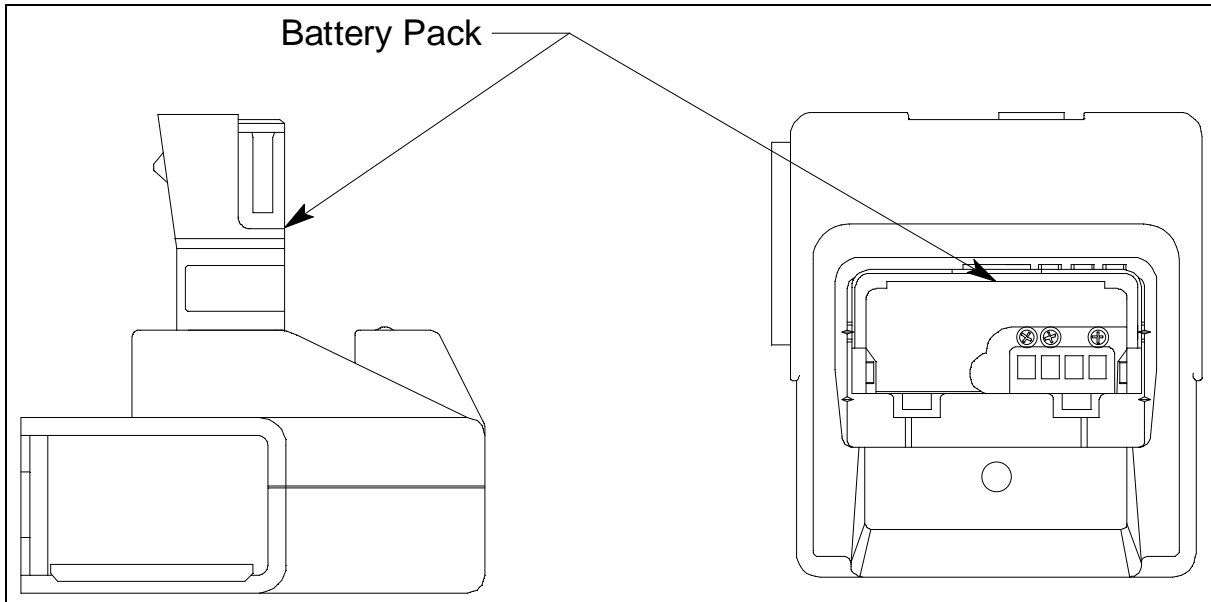

Figure 27: Putting the Battery Pack into the Charging Station
4. Insert the battery pack into the charging station as shown in Figure 27 below so that the metal contacts on the back of the battery pack come into contact with the metal contacts in the charging station. When proper contact has been made, the red LED on the charging station will turn on.